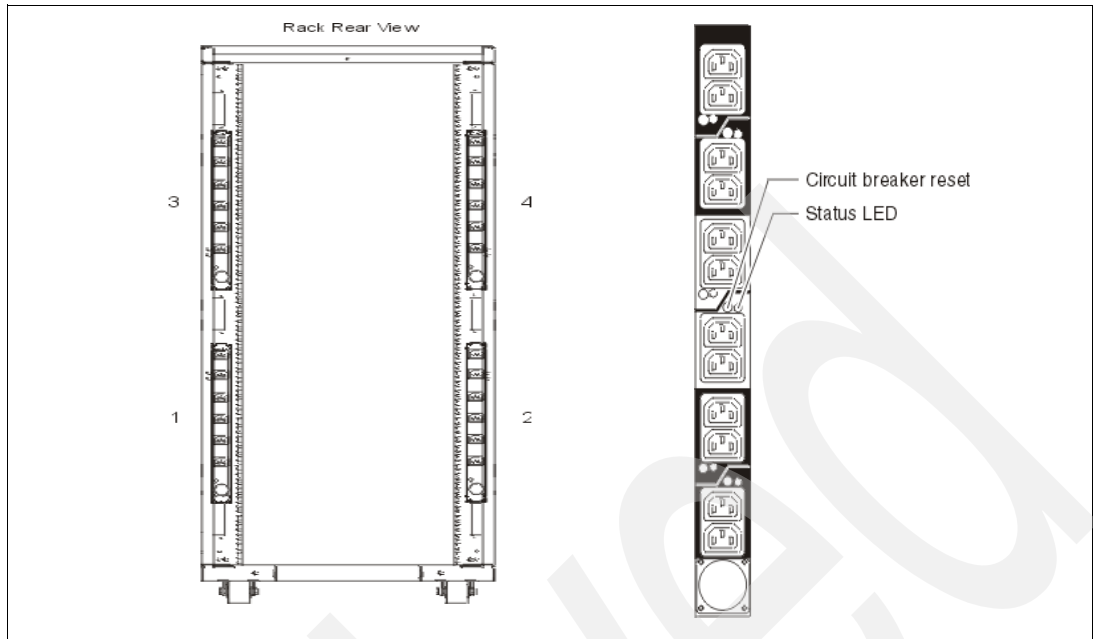

Figure 1-5 PDU placement and PDU view
- ▶ Up to four power distribution units (PDUs) can be mounted in the PDU bays (see Figure 1-5 on page 24), but others can fit inside the rack. See 1.12.7, “The AC power distribution unit and rack content” on page 23.
Four PDUs can be mounted vertically in the back of the T00 and T42 racks. See Figure 1-5 for the placement of the four vertically mounted PDUs. In the rear of the rack, two additional PDUs can be installed horizontally in the T00 rack and three in the T42 rack. The four vertical mounting locations will be filled first in the T00 and T42 racks. Mounting PDUs horizontally consumes 1 U per PDU and reduces the space available for other racked components. When mounting PDUs horizontally, use fillers in the EIA units occupied by these PDUs to facilitate proper air-flow and ventilation in the rack.